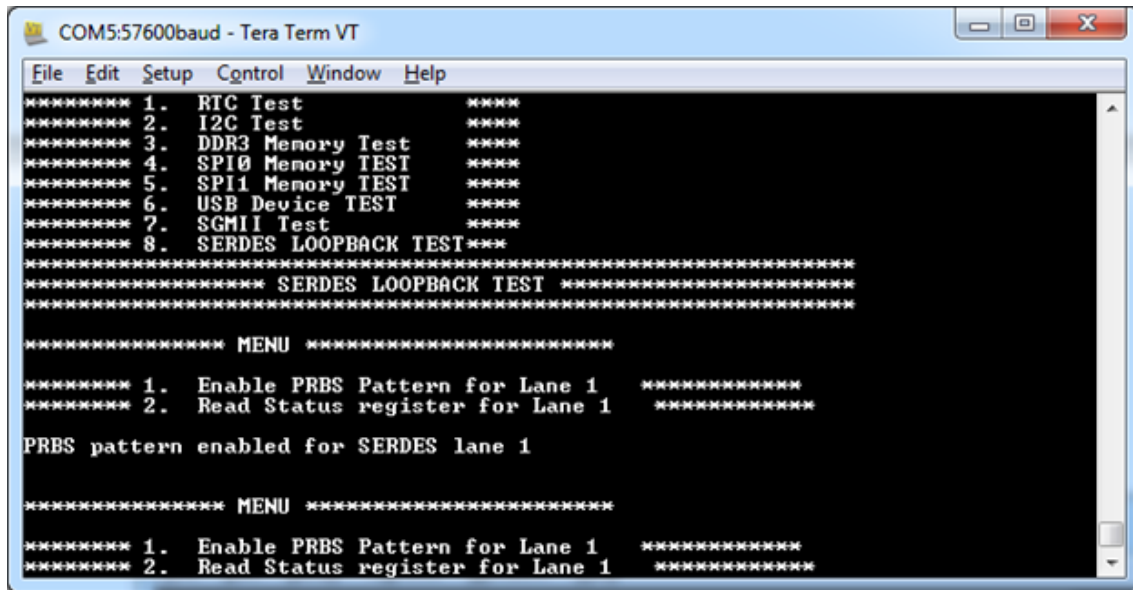

Figure 44 · SERDES Loopback Test
- a. Press **1** to enable PRBS pattern for Lane 1. Refer to Figure 44.